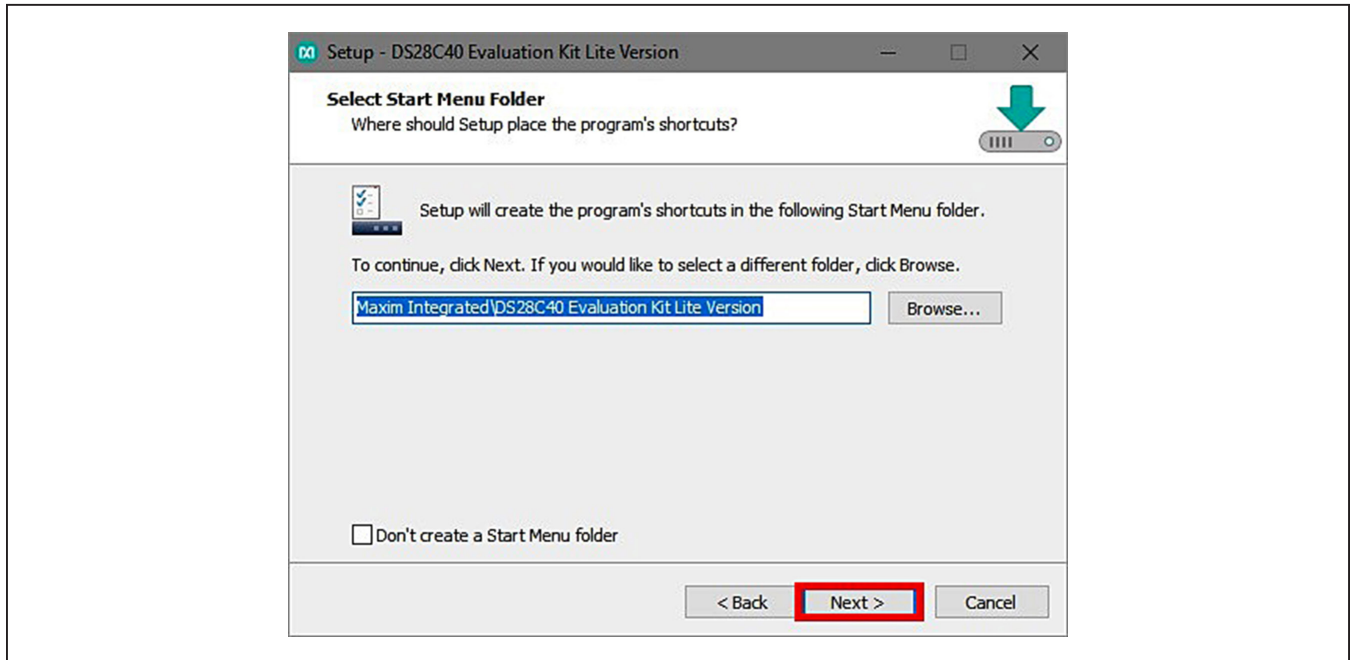

Figure 4. Program Shortcuts Location
- 5) Click **Next** to install shortcuts to the default folder (Figure 4).